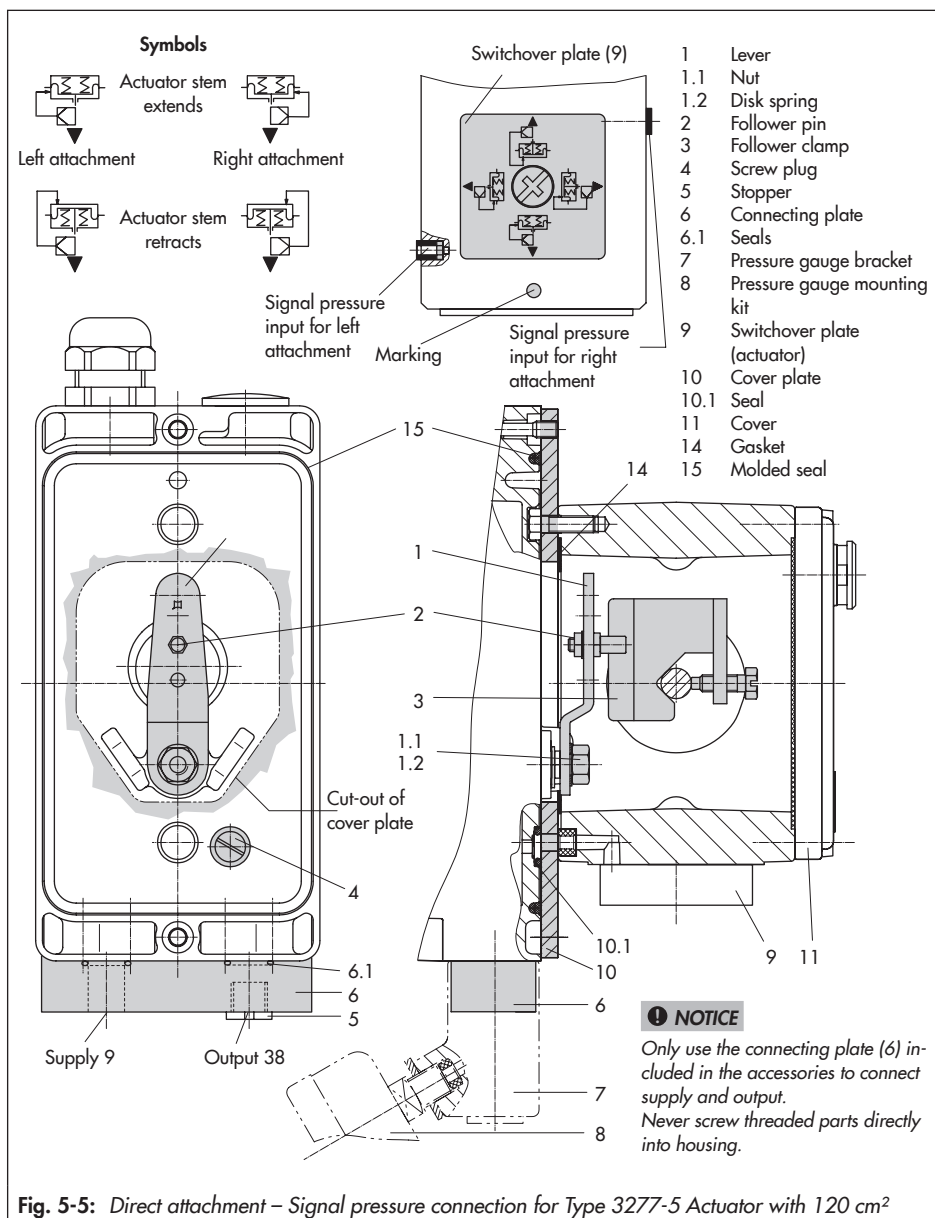

Fig. 5-5: Direct attachment – Signal pressure connection for Type 3277-5 Actuator with 120 cm²
Actuator with 120 cm² (see Fig. 5-5)
4. Mount cover plate (10) with narrow side of the cut-out (Fig. 5-5, on the left) pointing towards the signal pressure connection. Make sure that the gasket (14) points towards the actuator yoke.
5. **15 mm travel:** Keep the follower pin (2) on the M lever (1) on the back of the positioner in the pin position 35 (delivered state).
7.5 mm travel: Remove the follower pin (2) from the pin position 35, reposition it in the hole for pin position 25 and screw tight.